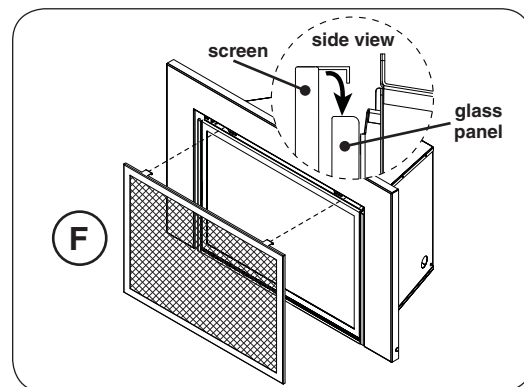

Fig. 36-1 Install screen
4. The barrier screen has 2 top hooks. Place the screen directly over the glass panel. Ensure the screen rests properly in place. See Fig. 36-1, "F".